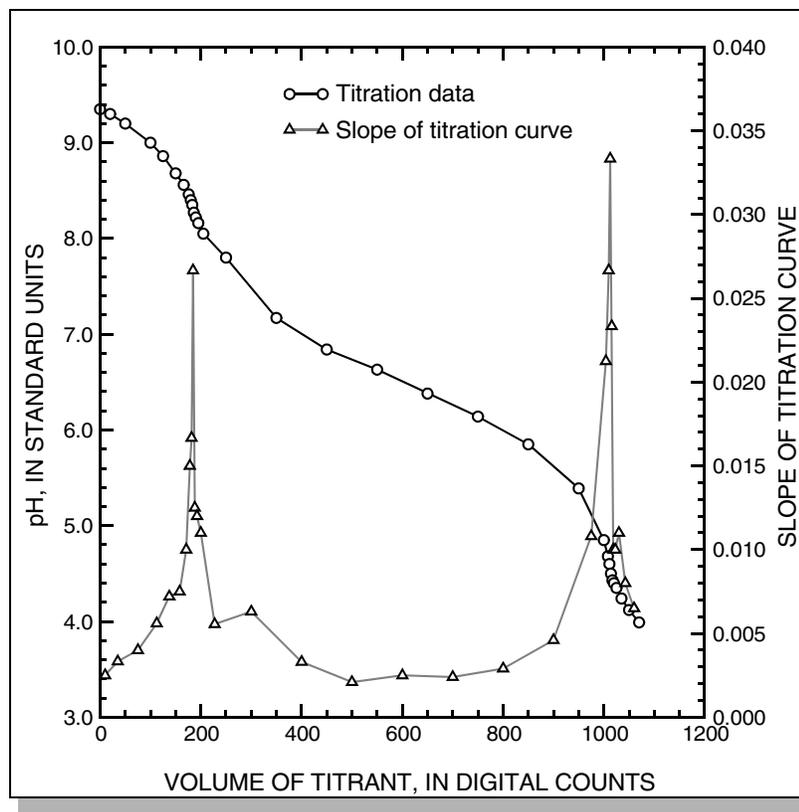

Figure 6.6-2. Plot of data for an inflection point titration using a digital titrator (Example IPT-1A).
A titration was performed on a natural water sample from the South Diamond Canal inflow to the Donner und Blitzen River, Oregon. The data are plotted in figure 6.6-2 and listed in table 6.6-3. Using the IPT method, the maximum rates of change of pH per volume of titrant added occur at pH 8.27 and 4.50 (at counts 186 and 1014). Because these slopes represent changes between two points, the actual inflection points are located between counts 183 and 186 for the carbonate equivalence point and between 1011 and 1014 for the bicarbonate equivalence point. Thus, the calculated digital-counter values for the inflection points are 184.5 (185) and 1012.5 (1013). The error in using 1014 rather than 1013 typically is insignificant but the larger the increments used, the greater the error. Calculation of the correct inflection point results in reduced errors.